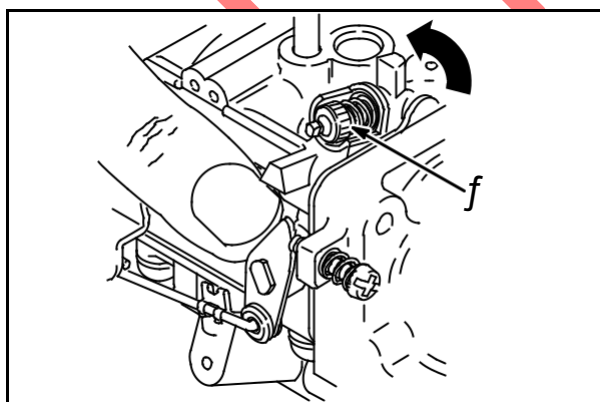

Fig. 20
Then turn idle mixture screw (3) COUNTER-CLOCKWISE $3/8$ turn, Fig. 20.